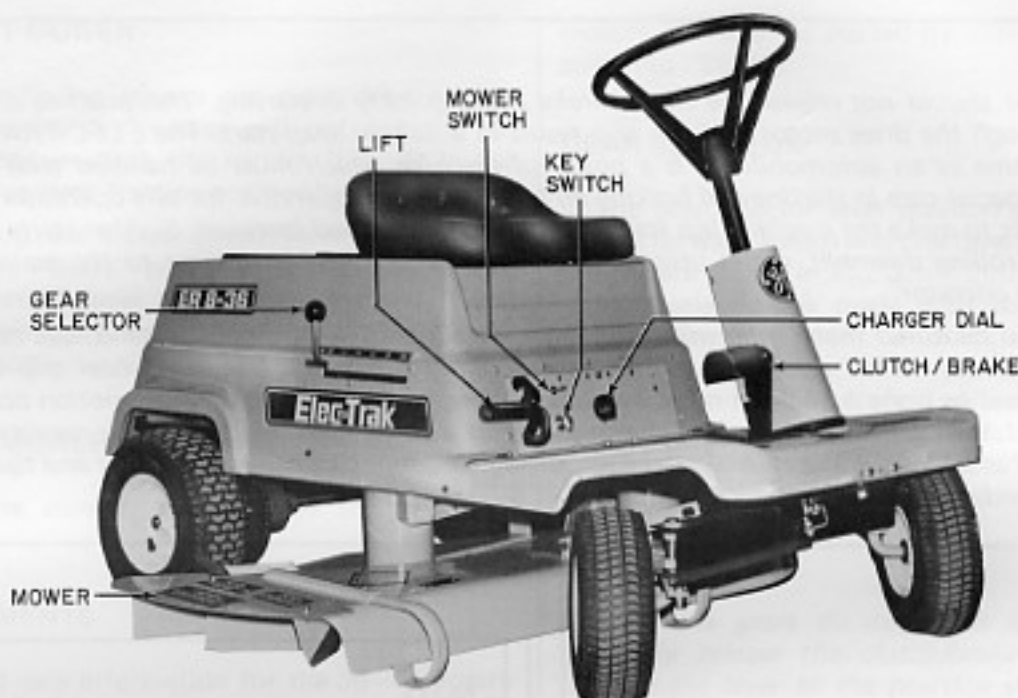

Fig. 2 ER8-36 ELEC-TRAK Rider Mower
2. Place the mower under the rider in its approximate mounted position. (See Fig. 2.)